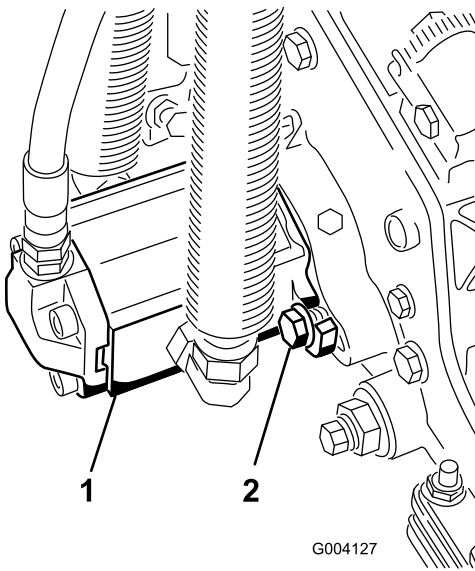

Figure 12
15. Install the motor by rotating it clockwise so that the motor flanges clear the capscrews (Figure 12). Rotate the motor counterclockwise until the flanges encircle the capscrews then tighten the capscrews.